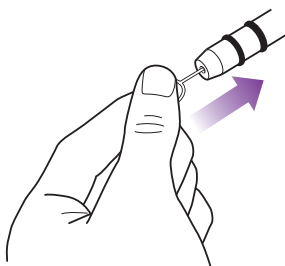

fig. 34
- 3 Use the provided nozzle cleaner or a small diameter stiff metal wire, such as a straightened metal paper clip, and carefully insert the end of the wire into the nozzle orifice. See illustration above. **(fig. 34)**